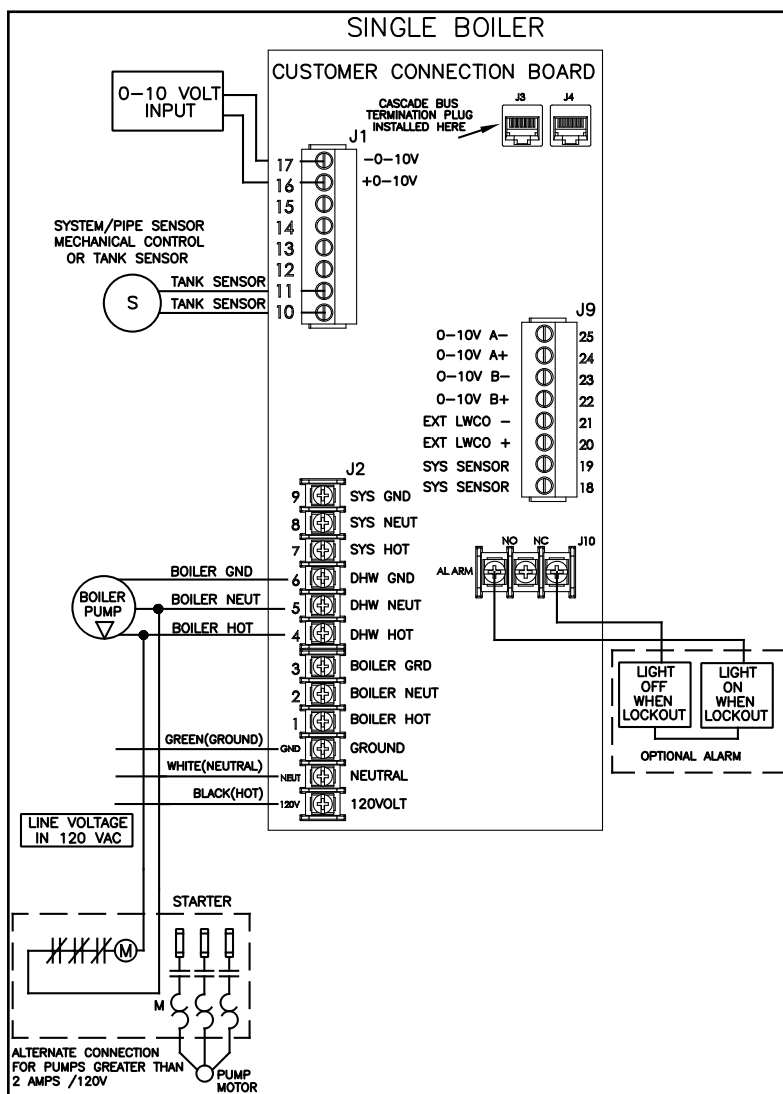

Figure 22 - VWH Control Wiring
**NOTE:** A termination plug is included in the CAT 3 / CAT 5 Bus Connection Point, labeled J3 in Figure 22. DO NOT REMOVE THIS PLUG! Doing so will affect boiler operation and void warranty.
1. Connect 120V / 60Hz / 15 AMP incoming power wiring to the line voltage terminal strip in the electrical junction box at terminals 120V, Neutral, Ground (shown in Figure 22).
3. Connect the boiler pump as shown in Figure 22 to the terminals marked 1 – (HOT), 2 – (NEUT), and 3 – (GND). The connections shown are suitable for a maximum continuous pump draw of 2 amps at 120 volts. If the pump requires more current or voltage than the 120 volts supplied, an external motor starter or contactor will be required.
operation and the circuit between ALARM COM and NO is open during normal operation. The connections depicted in Figure 22 show two 120 volt lights connected to the alarm terminals. One light will be on when the boiler is in normal mode and the other light will be on when the boiler is in lockout mode.
Connect the tank sensor or mechanical controls to the TANK SENSOR terminals (10, 11) of the low voltage terminal strip as shown in Figure 22. The control will automatically determine which type of sensor is connected and operate accordingly.
The system/pipe sensor can be used to control the temperature of the storage tank when a tank sensor or mechanical control cannot be mounted. The system/pipe sensor would be wired into the terminals of the low voltage terminal strip as shown on Figure 22. It is important to note that when a system/pipe sensor is used, the circulating pump must be wired to operate continuously; otherwise the boiler will short cycle.
2. Connect a building management system or other auxiliary control signal to the terminals marked 16, 0-10 VOLT + and 17, 0-10 VOLT - in the electrical junction box (shown in Figure 22). Caution should be used to ensure that the 0-10 VOLT + connection does not become connected to ground.
1. Connect the boiler pump as shown in Figure 22 to the terminals marked 1 – (HOT), 2 – (NEUT), and 3 – (GND). The connections shown are suitable for a maximum continuous pump draw of 2 amps at 120 volts. If the pump requires more current or voltage than the 120 volts supplied, an external motor starter or contactor will be required.